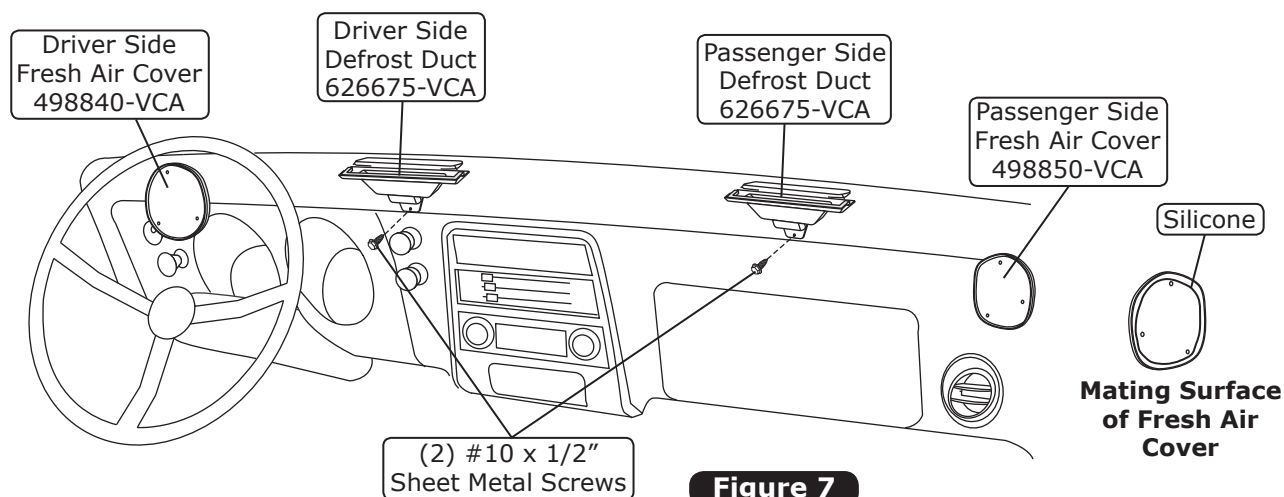

Figure 7
1. Install the defrost ducts under the dash as shown in Figure 7, below. Align each defrost duct with the defrost opening in the dash, and hold it in place. Using the bracket as a template, drill a 7/64" hole. Secure each defrost duct using a #10 x 1/2" sheet metal screw (See Figure 7, below).
2. If the vehicle is equipped with astro ventilation, apply a 1/4" bead of silicone to the mating surface, and install the driver and passenger side fresh air covers, using OEM hardware to secure (See Figure 7, below).